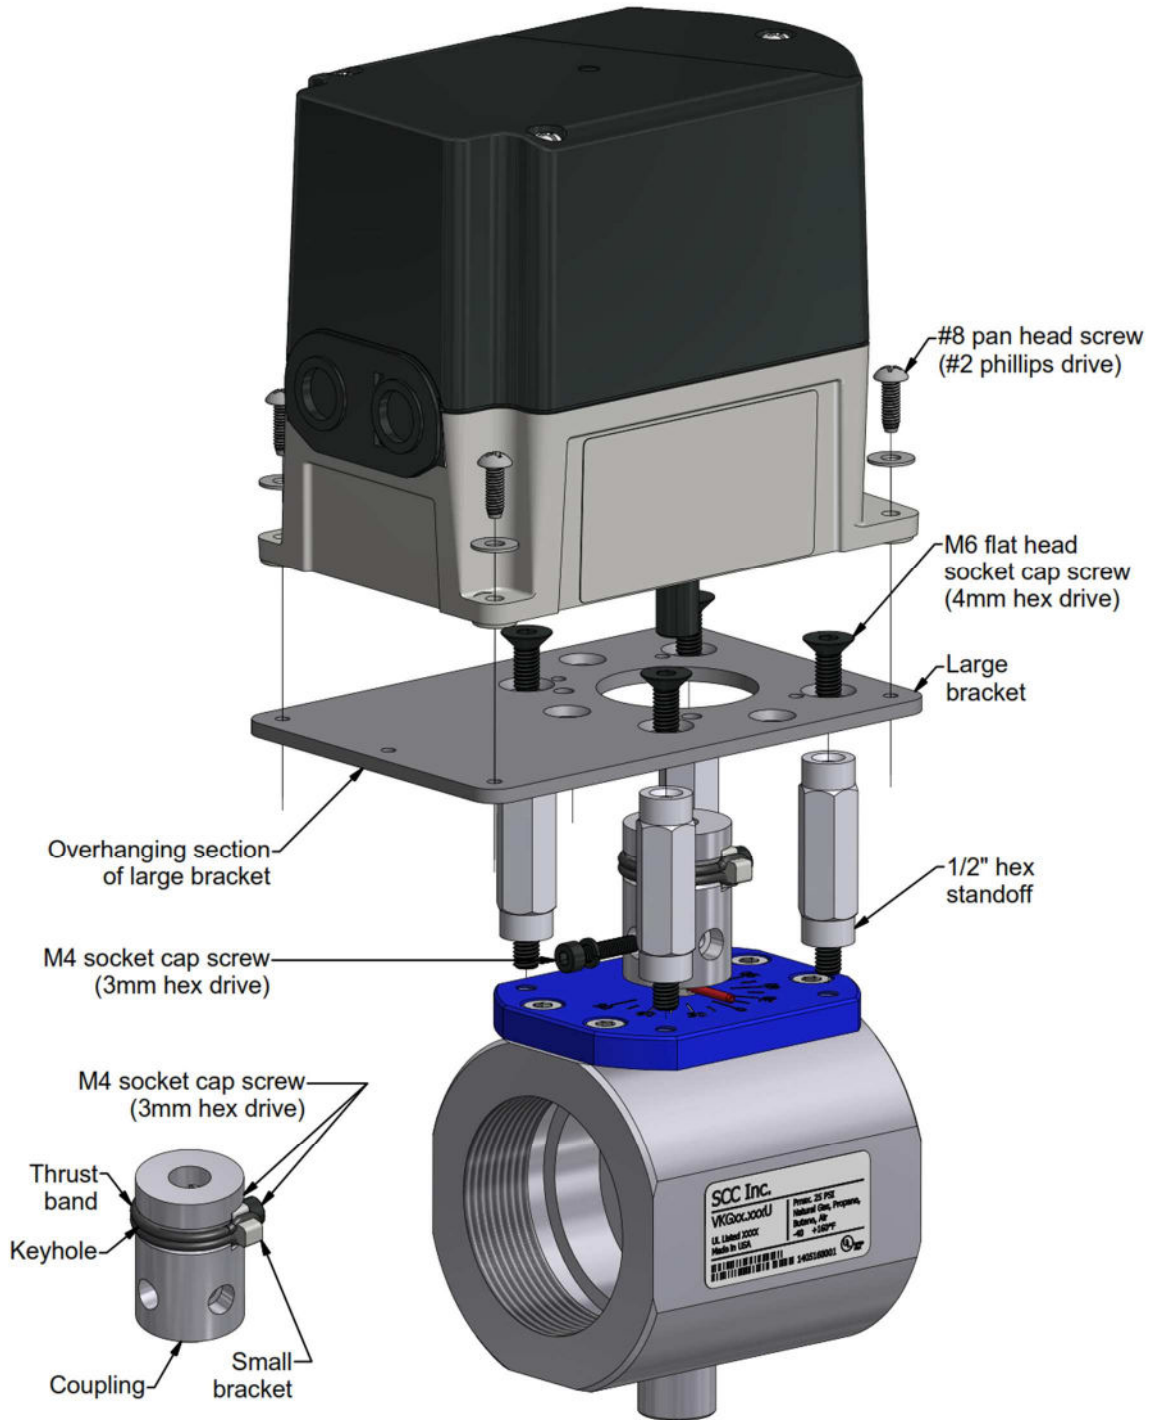

Figure 1: Exploded View of VA45.2-NF-200
7. **If the (4) 1/2" hex standoffs were removed in step 6**, thread them back into the threaded holes on top of the valve and tighten with a crescent wrench. **If the coupling was removed in step 6**, slide the coupling back over the valve shaft. Insert the M4 socket cap screw and lock washer through the coupling and valve shaft so that the coupling is in the desired position of the (4) clockable positions. The valve should still be at the closed / 0° position.
8. Fasten the large bracket back onto the standoffs with the (4) M6 flat head socket cap screws (4mm hex drive) so that the overhanging section of the large bracket is on the opposite side of the coupling as the small bracket.
9. Insert a small flat head screwdriver into the keyhole (see Figure 1) between the thrust band, and with the other hand, grab the actuator and push it into the coupling until the actuator shaft clears the small bracket. Remove the screwdriver from the keyhole.
11. Fasten the actuator to the large bracket with the (4) #8 pan head screws (#2 phillips drive) and associated washers. Then, tighten the (2) M4 socket cap screws (3mm hex drive) to secure the small bracket to the flat of the D-shaft.